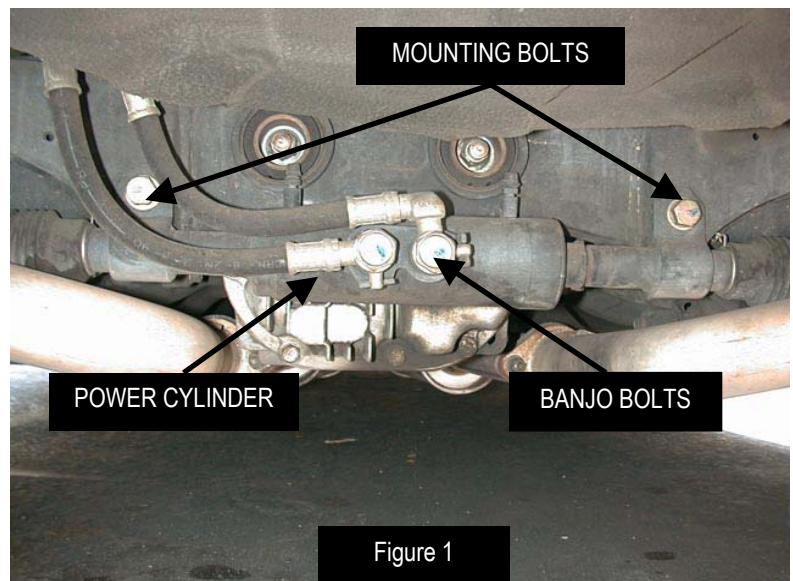

Figure 1
2. Remove the two banjo bolts holding the two hoses to the stock power cylinder and relieve the system pressure (see fig. 1).
5. Remove stock power cylinder mounting bolts and remove power cylinder and tie rods as one assembly (see fig. 1).